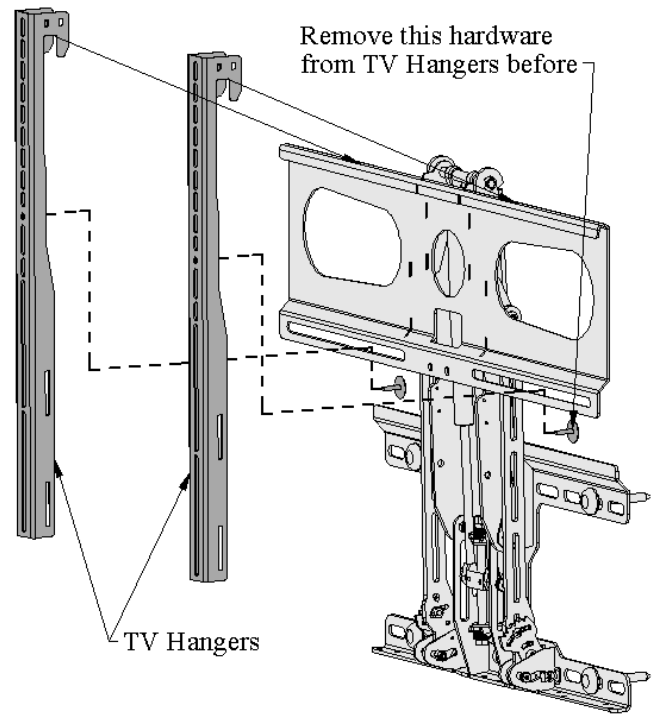

Figure 8, Attaching the Television
3. Hook the Vertical Mounting Bars (with the TV attached to them) over the Screen Back Plate as shown in Figure 8.